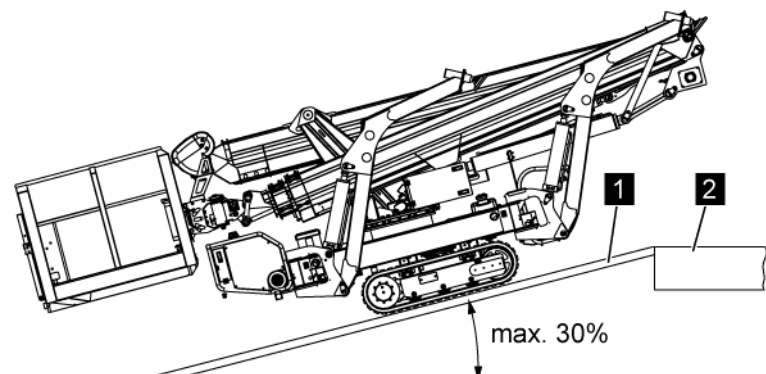

Fig. 36: Transportation on a trailer
1. Drive the aerial access platform forwards onto the ramps (Fig. 36/1).
2. → When the machine begins to topple onto the loading area (Fig. 36/2), reduce travel speed.
When the aerial access platform has been set down completely on the loading area (Fig. 36/2) with the chains, the travel speed can be increased again.